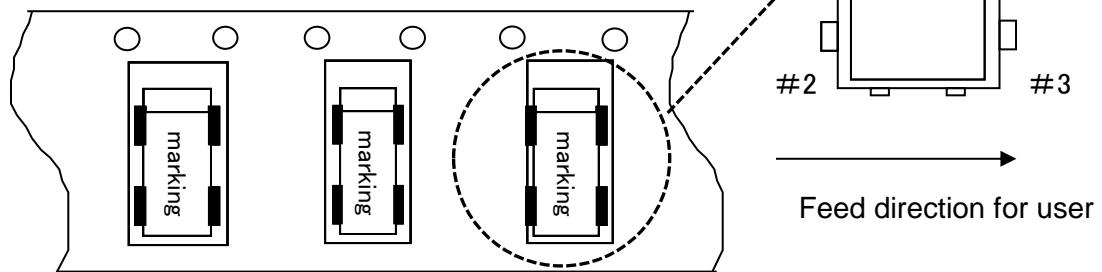

Fig. 1
- (1) Taping shall be placed in tapes in such manner as to assure that marking of the components is visible as per Fig. 1